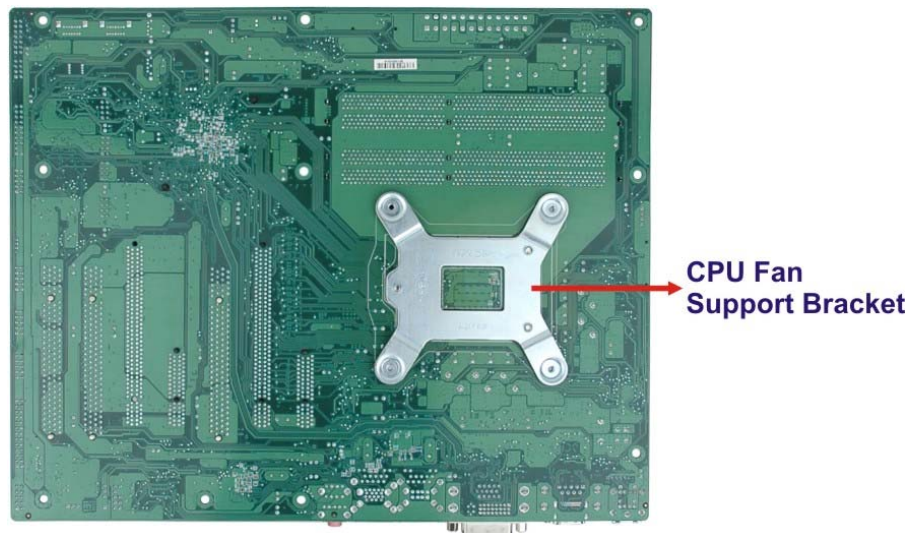

Figure 4-6: Cooling Kit Support Bracket
- Step 1:** A cooling kit bracket is pre-installed on the rear of the motherboard. See **Figure 4-6**.